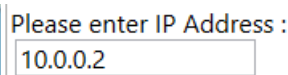

Figure 14 Entering the instrument IP address
- 4 In the field under **Please enter IP Address**, enter the IP address of the AriaMx or AriaDx instrument. (See Figure 14.)